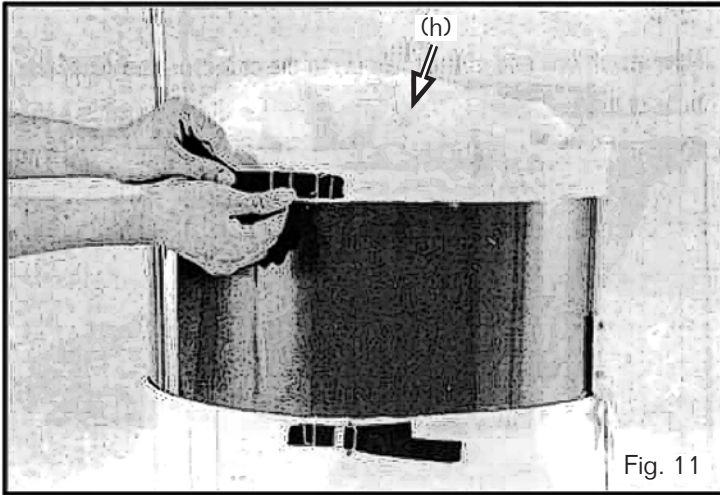

Fig. 11
9. Place the collector and filter bags (h) onto the collector and secure with the belts as shown in figure 11.